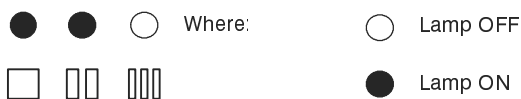

Fig. 9.7
- 3 The lamps E should give the indication as in Fig. 9.7 (maximum c.h. useful output adjustment). If not, press the reset button repeatedly to obtain it.